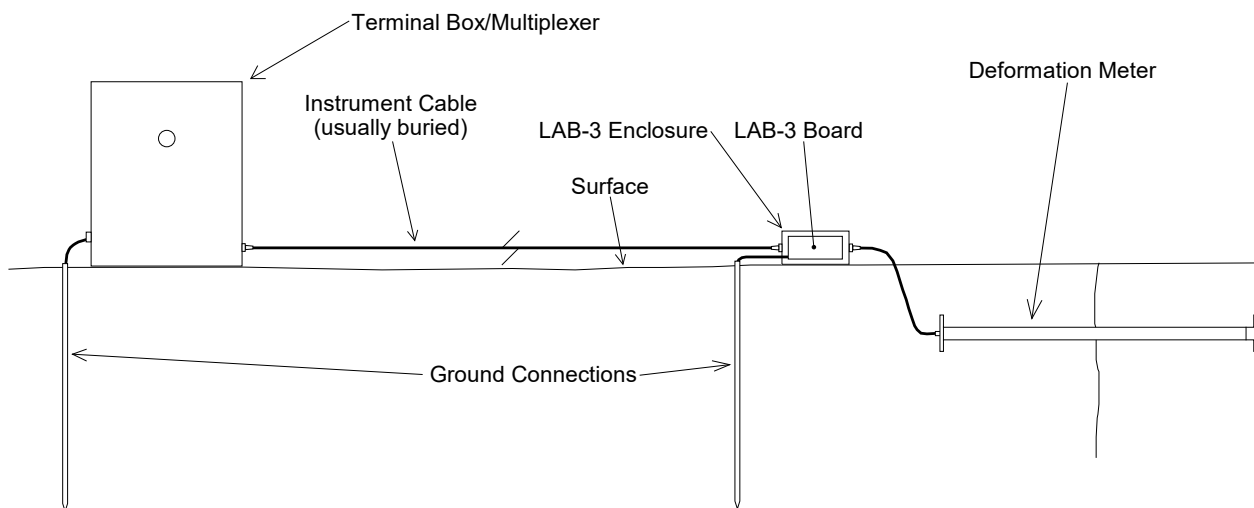

Figure 4 - Lightning Protection Scheme
- Lighting arrestor boards and enclosures are available from GEOKON that install near the instrument. The enclosure has a removable top. If the protection board (LAB-3) is damaged, the user may service the components (or replace the board). A connection is made between this enclosure and earth ground to facilitate the passing of transients away from the gauge. See Figure 4. Consult the factory for additional information on these or alternate lightning protection schemes.